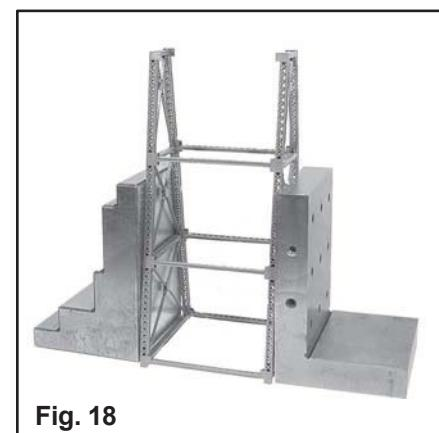

Fig. 18
Lay a 2nd bent assembly flat on the work surface with the gusset plate extensions up. Hold the tower assembly from step 15 upside down (with the tower struts down) and place the ends of the tower struts on the 2nd bent assembly. Align and cement each tower strut to the 2nd bent assembly as done in step 15. View the tower assembly from above to check the squareness of the bent assemblies to each other. Set the tower upright and use angle plates, a square and weights, or other suitable tools to hold the tower square as the cement dries. See fig. 18.
17. Cement the tower X-braces part (13) to the tower assembly. (Truss rods can be substituted for the X-braces as described in step 8 of the Tall Steel Viaduct instructions.)
The tower X-braces are assembled in the same manner as the bent X-braces. Follow the instructions in step 7. Part (13) is used for both stories, on both sides of the tower. Be sure the lattice straps on the X-braces are facing the top of the tower. After positioning but before cementing the X-braces in place, use angle plates, a square and weights, or other suitable tools to hold the tower square. See fig. 18. Once the tower is square and the X-braces are in their correct position, cement the X-braces in place. Note that the top end of the 4th story X-braces can only be cemented to an outside gusset plate until step 21 is completed.
18. Cement the tower rivet plates part (9) at the intersection of the tower X-braces in both stories and on both sides of the tower.